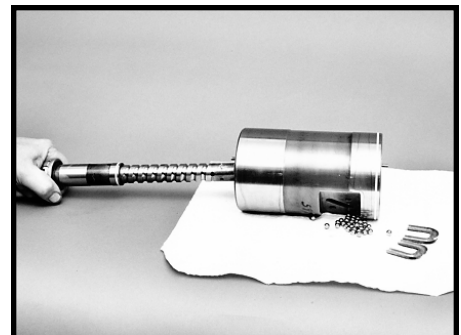

Figure 78
36. Remove the worm shaft/input shaft (16) from the rack piston (29). SEE FIGURE 78.